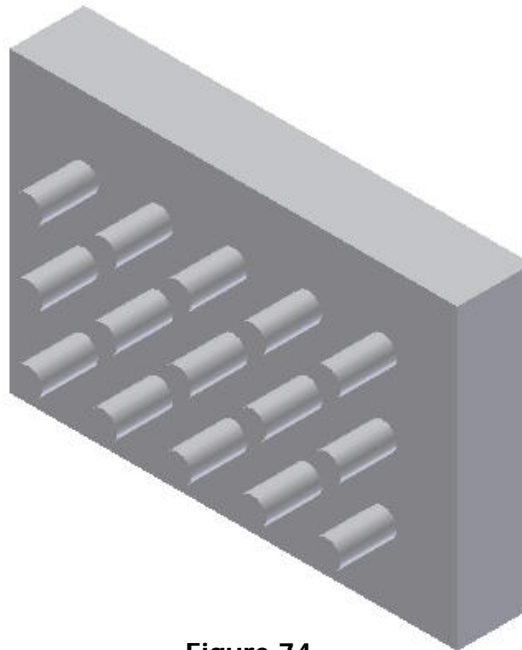

Figure 74
- The finished part with both patterns added should look like Figure 74.